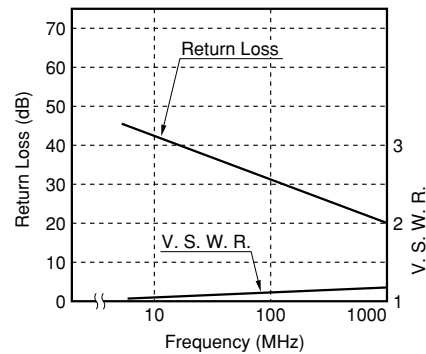

Figure 3.7 High-frequency characteristics
Figure 3.7 shows the performance of the UA2 and the UB2 series relays when a high-frequency signal is switched by the contacts of the relay. Figure 3.7 (1) shows the test circuit. Figure 3.7 (2) shows the isolation loss of the relay. Figure 3.7 (3) and Figure 3.7 (4) respectively show the insertion loss and return loss.
(1) Test circuit